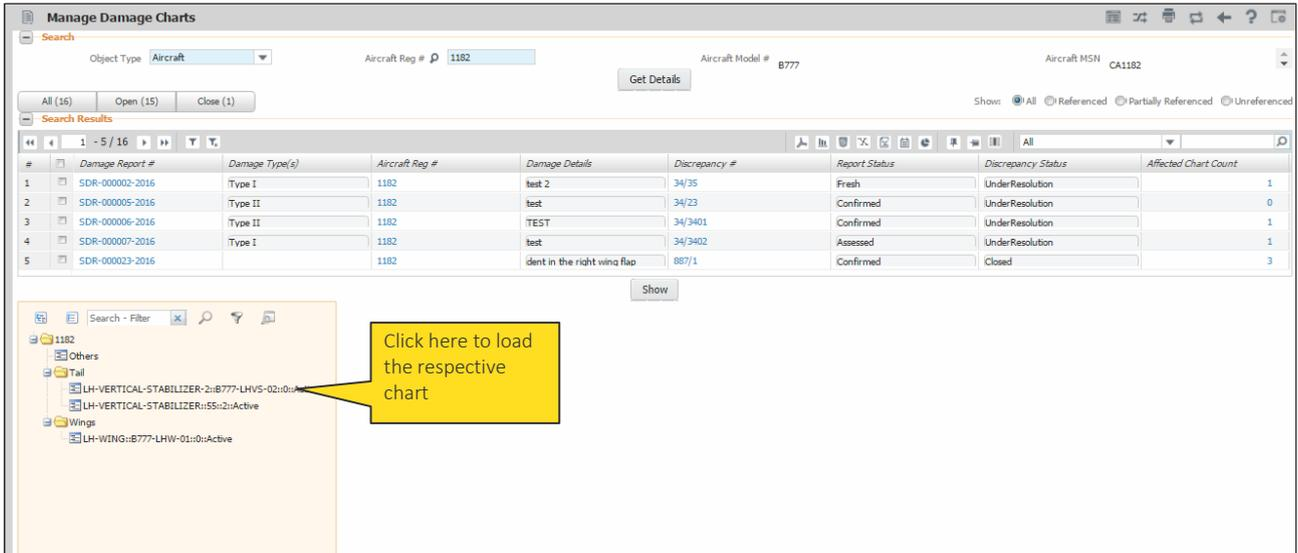

Figure 3.7 Selection of affected chart from the tree structure
1. Select the chart from the tree structure on which damage point has to be marked. *See Figure 3.7.*